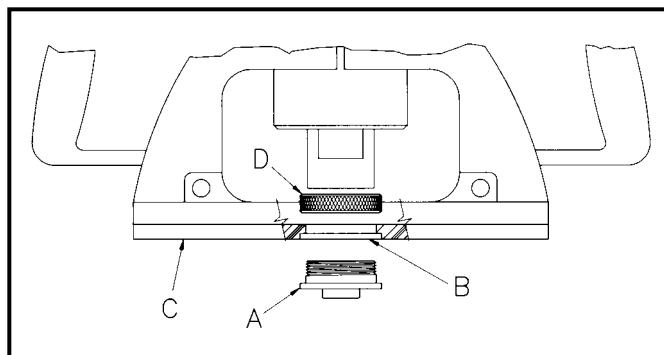
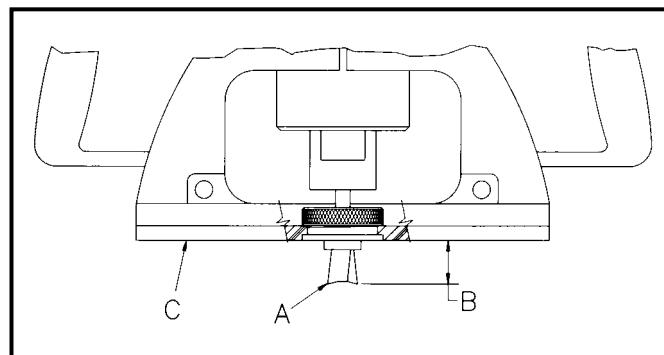

Fig. 4
Fig. 5
2. Insert templet guide, (A) Fig. 4, in hole (B), in router sub-base (C).
3. Install templet guide locknut (D) on templet guide and firmly tighten to lock templet guide in sub-base.
4. Insert dovetail bit, (A) Fig. 5, through templet guide into router collet.
5. Adjust router so dovetail bit projection (B) from bottom of router sub-base (C), is  $9/16"$ .
Prepare router the same as for 1/2" half-blind dovetails except install 42054 templet guide, 43639 bit, and adjust depth of cut (B) Fig. 5 to  $\frac{9}{16}$ ".
Prepare router the same as for 1/2" half-blind dovetails except install 1/2" straight bit and adjust depth of cut, (B) Fig. 5, equal to 1/4" plus thickness of material to be joined.